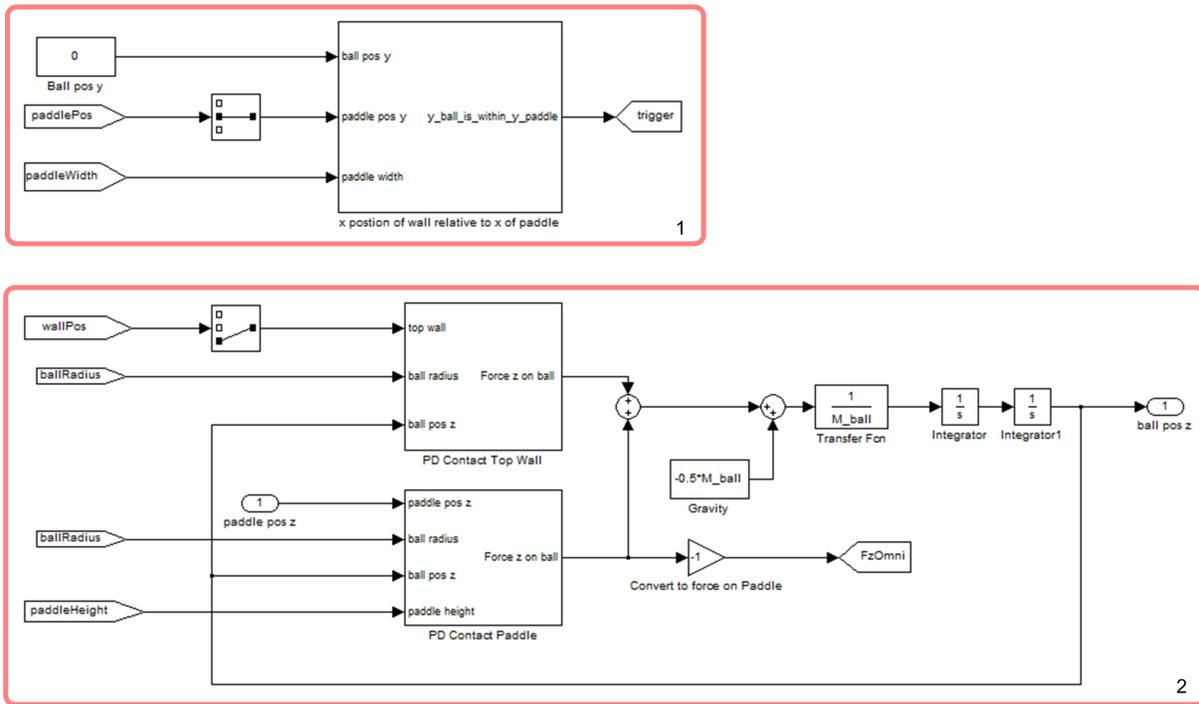

Figure 12.2: Ball model
2. Double click on the block labeled **Ball** to open the subsystem. The model is shown in Figure 12.2
3. Create a model to implement the dynamic system. Create this model in the subsystem shown in Figure 12.2.